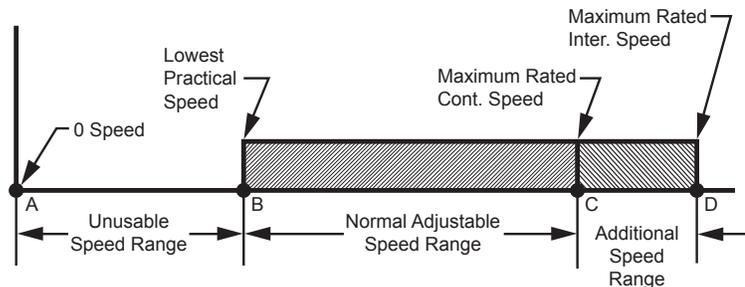

Figure 5. The adjustable speed range of a hydraulic motor can be extended by operating it into its rated intermittent speed range.
2. After estimating the lowest motor speed at which motor performance is acceptable, if the speed range is not wide enough for the application, it can be extended on the upper end, by going into the intermittent speed range as shown in **Figure 5**.
Figure 5. Speeds between Point A (zero RPM) and Point B are unusable because motor performance is unacceptable. So the speed range cannot be extended downward. In the speed range between Points B and C motor performance is acceptable. For a wider speed range, the motor can be operated up in the intermittent speed range, up to Point D. However, prolonged operation in this area will reduce life expectancy. Efficiency will be poor because of increased porting losses, and these losses may overheat the system.